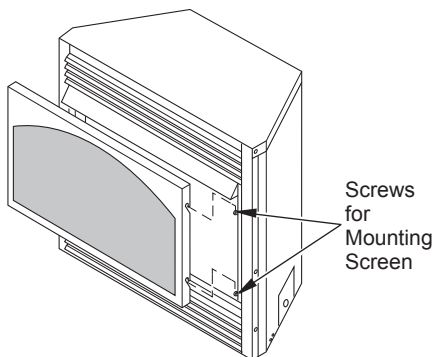

Figure 1 - Removing Fireplace Screen
1. To remove screen, lift screen up off the screws in front of fireplace (see Figure 1).
- Replace screen (see Figure 1, page 1).